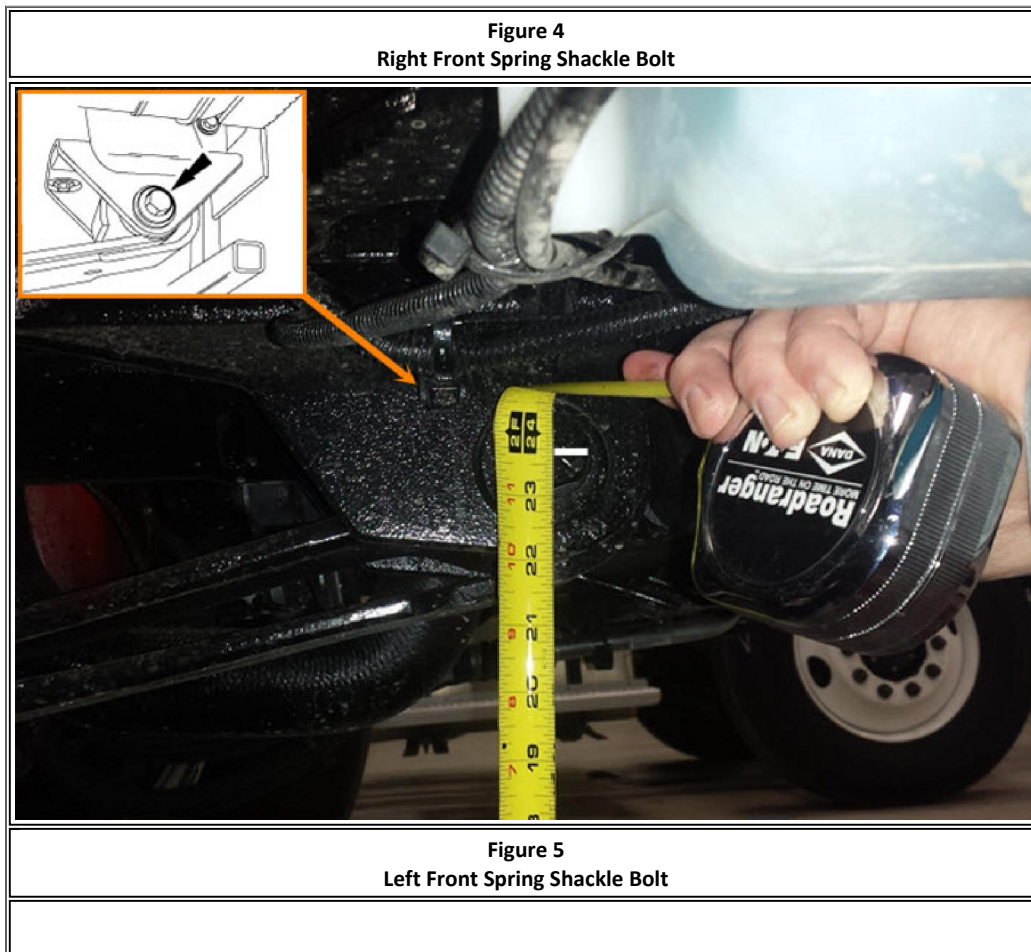

Figure 6
- Measure the rear of the vehicle at the aft frame flange (bottom of the flange) as shown in Figures 6 and 7. Location may vary slightly by application.